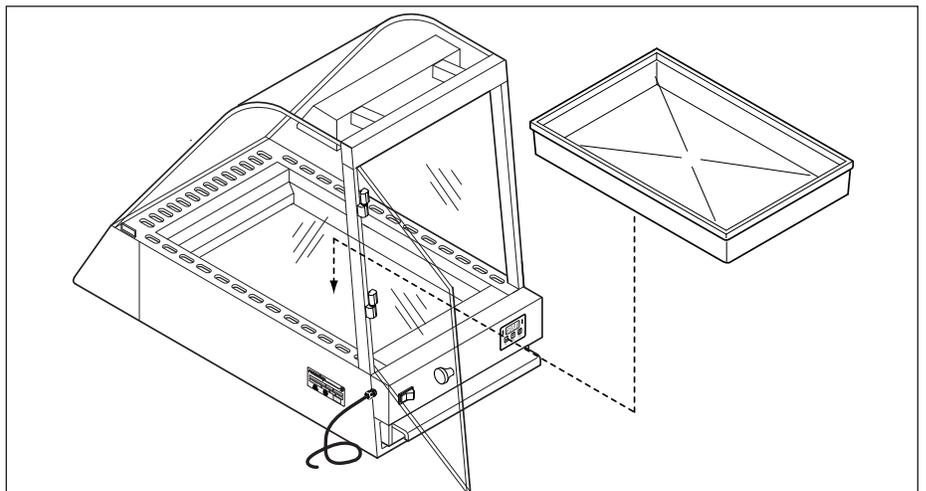

Figure 4. Loading Food (DCH-100 Shown)
4. Open the rear door(s) and place the serving table pan(s) into the unit (Figure 4). Load the pan(s) with the food product using tongs or similar utensil. Close the door(s).